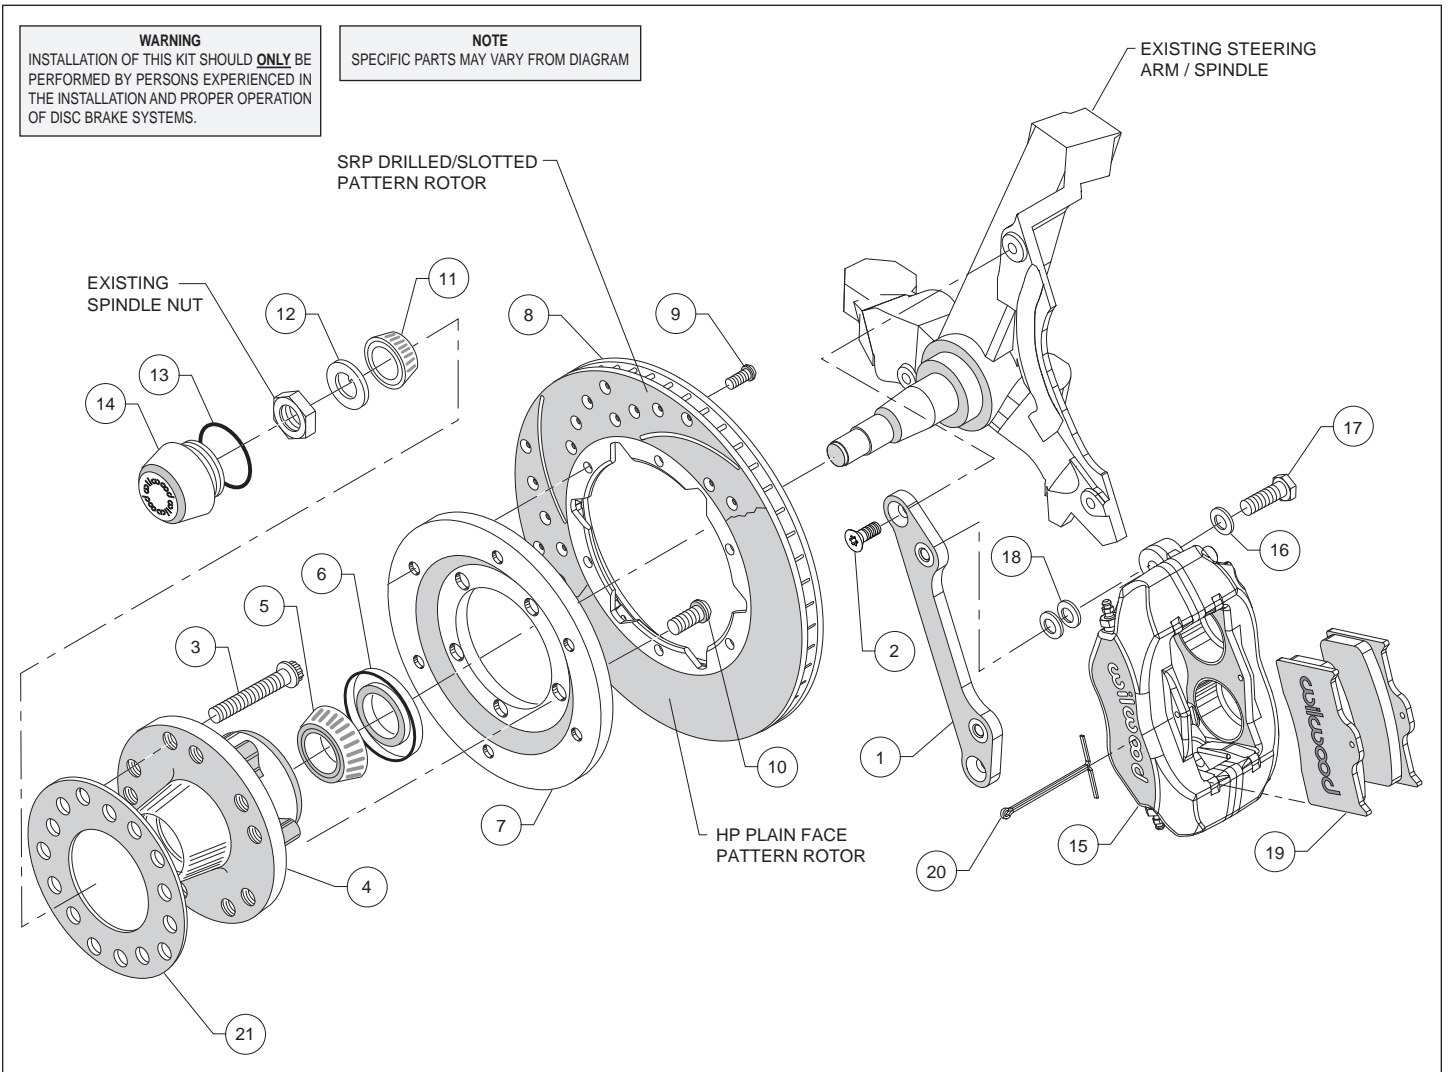
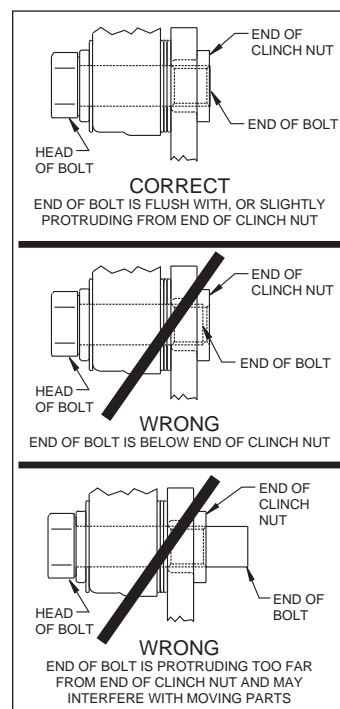

Figure 2. Typical Installation Configuration
Figure 4. Clinch Nut Engagement Diagram
**Assembly Instructions** (numbers in parenthesis refer to the parts list, above and Figure 2): **CAUTION:** All mounting bolts must fully engage clinch nuts. Be sure to check that all bolts are either flush or protruding through flanged side of clinch nut after shimming, Figure 4.
- Align caliper mounting bracket (1) with the corresponding holes, to the face of the spindle. Attach using bolts (2) as shown in Figure 2 and Photo 1. Temporarily tighten the mounting bolts. Ensure that the flanged heads of the clinch nuts in the bracket are facing outboard, Photo 1. **NOTE:** The bracket must fit squarely against the mounting points on the spindle. Inspect for interference from casting irregularities, machining ridges, burrs, etc. Remove bolts one at a time, apply red *Loctite*® 271 to threads and torque to 40 ft-lbs.
- Install wheel studs (3) into the hub (4), Photo 2. Torque to 77 ft-lb. **NOTE:** There are two five lug patterns in the hub (5 x 4.50 and 5 x 4.75). Ensure the correct hub stud pattern is being used to fit the wheel application.
- Pack the large inner bearing cone (5) with high temperature disc brake bearing grease (available from your local auto parts store) and install into the backside of the hub (4), Photo 3.
- Install the grease seal (6) by pressing into the backside of the hub (4), flush with the end of the hub, Photo 3.
- Orient the rotor (8) and the rotor adapter (7) as shown in Figure 2 and Photo 4. Attach the rotor to the adapter using bolts (9). Using an alternating sequence, apply red *Loctite*® 271 to the threads, and torque to 25 ft-lb.
- Mount the adapter/rotor assembly (7/8) to the hub (4) using bolts (10), as shown in Figure 2 and Photo 5. Using an alternating sequence, apply red *Loctite*® 271 to the threads, and torque to 55 ft-lb.
- Pack the small outer bearing cone (11) with high temperature disc brake bearing grease and install into hub (4). Slide the hub/rotor assembly onto the spindle. Secure using spindle washer (12) and OEM spindle nut, Photo 6. Adjust bearings per OEM specifications. Install saved OEM nut lock (if any) and a new cotter pin (not included).
- Screw dust cap (14) into hub (4), Photo 7. Friction created by the o-ring (13) on the dust cap keeps it from unscrewing. **NOTE:** The O.D. of the existing OEM spindle washer may be larger than the I.D. of the dust cap not allowing it to seat against the hub face. Therefore, use the spindle washer (12) supplied with the kit instead of the OEM washer.
- NOTE:** Please reference the caution statement at the beginning of the assembly instructions. Mount the caliper (15) onto the caliper mounting bracket (1) using bolts (17) and washers (16), as shown in Figure 2. Initially place two .035" thick shims (18) on each bolt between the caliper and the bracket, Photo 8. Temporarily tighten the mounting bolts and view the rotor (8) through the top opening of the caliper. The rotor should be centered in the caliper, Photo 9. If not, adjust by adding or subtracting shims between the bracket and the caliper. Always use the same amount of shims on each of the two mounting bolts. **NOTE:** The end of each bolt must be flush with or slightly protruding from the head of the clinch nut, as shown in Figure 4. If necessary place spare shims between washer (16) and caliper mounting ear to achieve the proper clinch nut engagement. Once the caliper alignment and clinch nut engagement are correct, remove the bolts one at a time, apply red *Loctite*® 271 to bolt threads, and torque to 40 ft-lb.